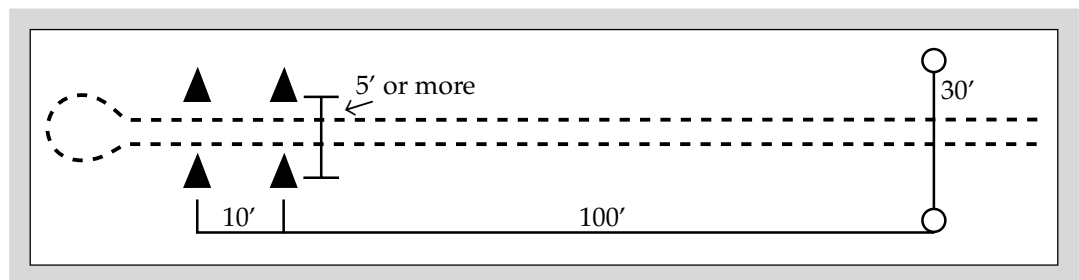

Figure 9. Driving Key Race.
Driving Key Race (see Figure 9)
Course: Four (4) markers: #1 set to be 100 feet from the start–finish line, #2 set to be ten (10) feet beyond the first set, and at least 25 feet from the end of the arena (see Figure 9). In each set the markers are to be at least five (5) feet apart (at least two [2] feet wider than the outside hub of the wheels of the largest vehicle). (2'–10' poles may be substituted for the four [4] markers.)